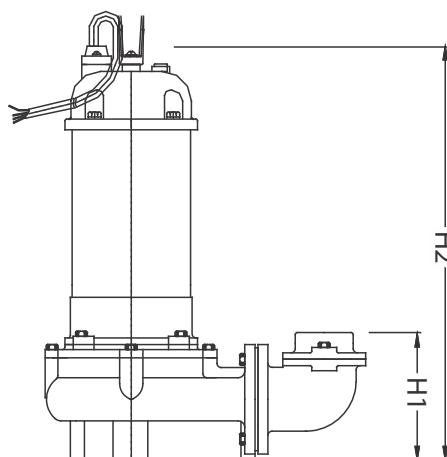

Figure 1
**⚠ WARNING** Non-automatic pumps do not have an automatic operating system. Do not operate the pump for a long time with the water level near the lowest water level (H1) as shown in Figure 1, as the automatic cut-off switch incorporated inside the motor will be activated.